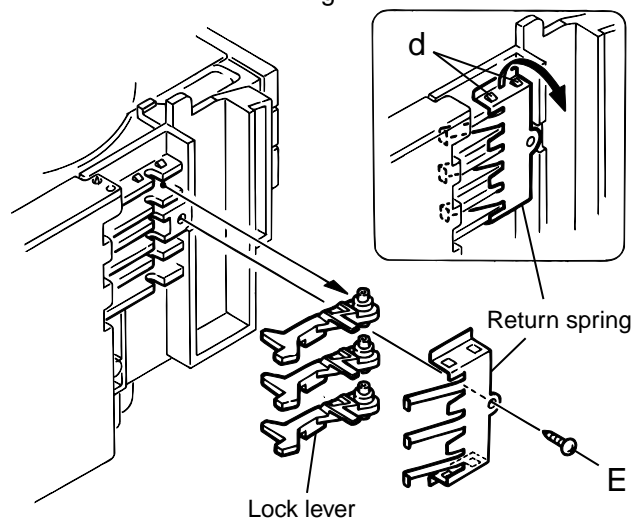

Fig.4
8. From the left side face of the chassis assembly, remove the one screw E retaining both of the return spring and lock lever (See Fig. 4).
9. By removing the pawl at the section "d" fixing the return spring, dismount the return spring (See Fig.4).
10. Remove the three lock levers (See Fig.4).